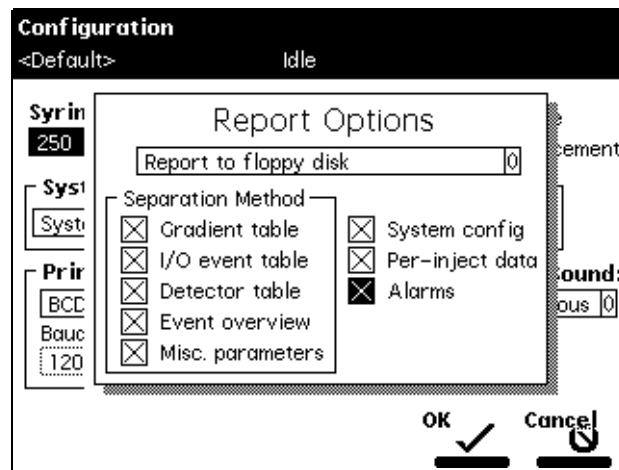

Figure 3-8 Report Options Dialog Box
1. Press the **Reports** screen key to display the Report Options dialog box (Figure 3-8).